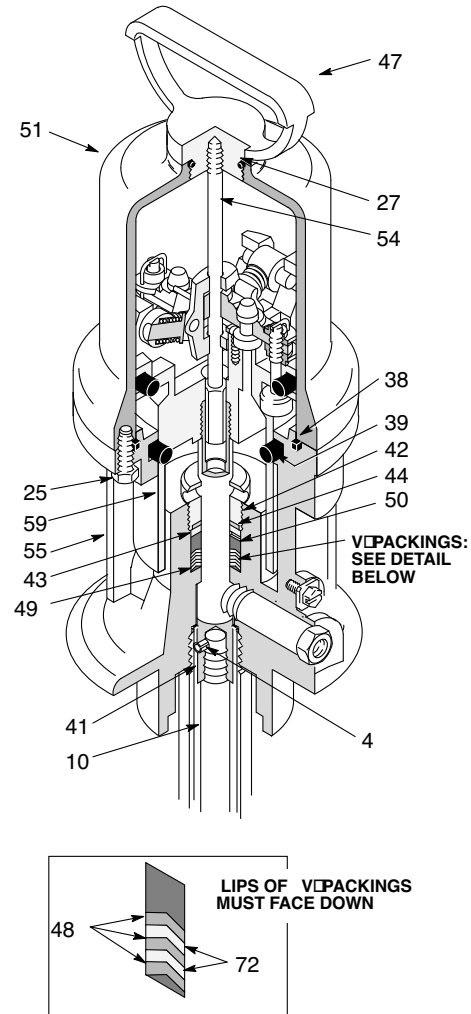

FIG. 15
3. Use a strap wrench on the riser tube (12) to screw it out of the air motor base (55).
4. Pull the connecting rod (10) down as far as it will go.
5. Use a hammer and punch to remove the roll pin (4). Unscrew the connecting rod (10). (FIG. 15)
6. Manually push up on the piston rod (41) to move the piston assembly (59) up as far as it will go. Unscrew the cap nut (47). Pull the nut up. Grip the trip rod (54) with padded pliers and screw the nut off the rod. (FIG. 15)
7. Remove the six screws (25). Pull the cylinder straight up off the piston. (FIG. 15)
- Remove one muffler plate (20 or 40). Pull the piston (59) up out of the base. Remove the throat packing nut (42) and packings. (FIG. 15)
- One at a time, install these parts in the base (55): the gland (49), alternately install three reinforced packings (48) and two nitrile packings (72) *with lips facing down*, bearing (50), back up washer (43), flat packing (44), and loosely screw in the packing nut (42). Be sure the o-rings (38 and 39) are in place. (FIG. 15)